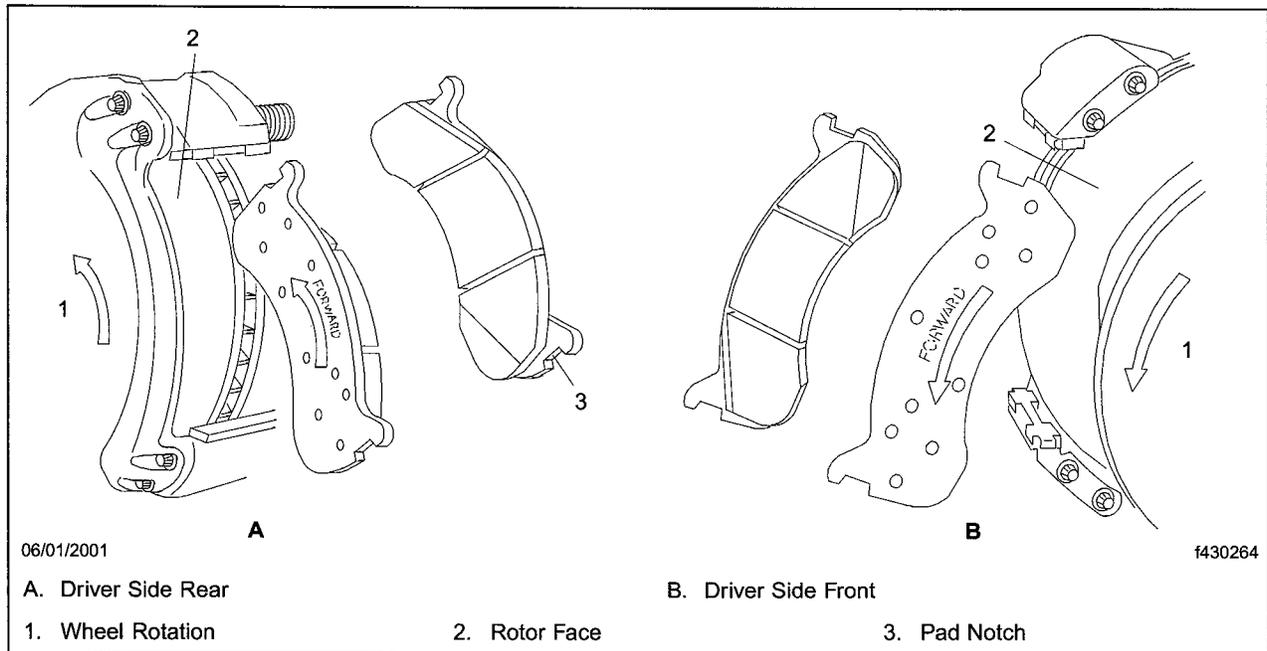

Fig. 8, Replacing Brake Pads on Front and Rear Brakes
19. Position the inboard and outboard disc brake pads onto the anchor plate pad abutment slippers with the lining facing toward the rotor. See **Fig. 8**.